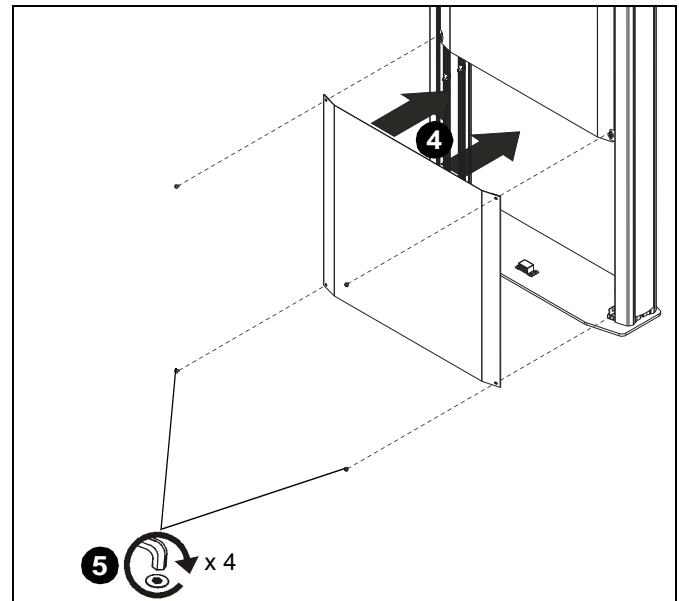

Figure 15
6. Reinstall lower cover. Refer to Cover Removal Section for details. (See Figure 15)
4. Install lower front cover back on stand using magnets. (See Figure 15)
5. (Optional) Re-install four button head cap screws if additional security is desired. (See Figure 15)